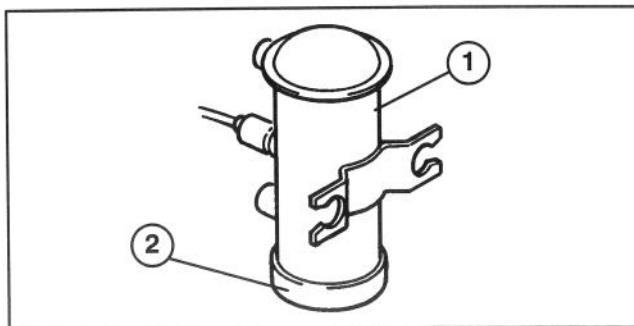

Figure 53
1. Fuel pump (Fig. 53) is located on inside of left frame channel below tool box.